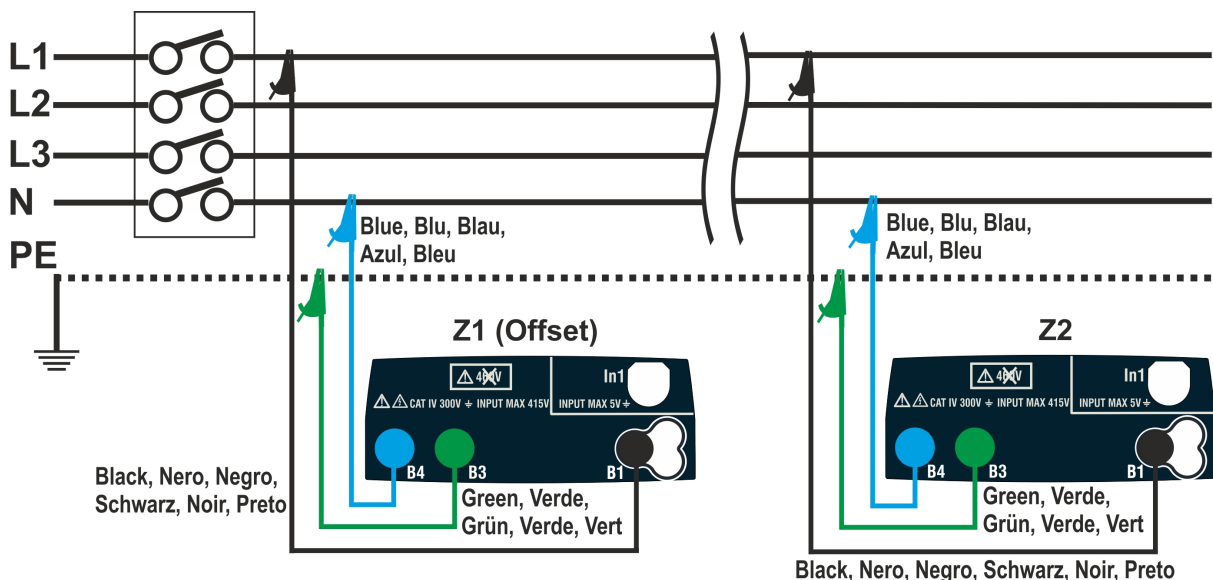
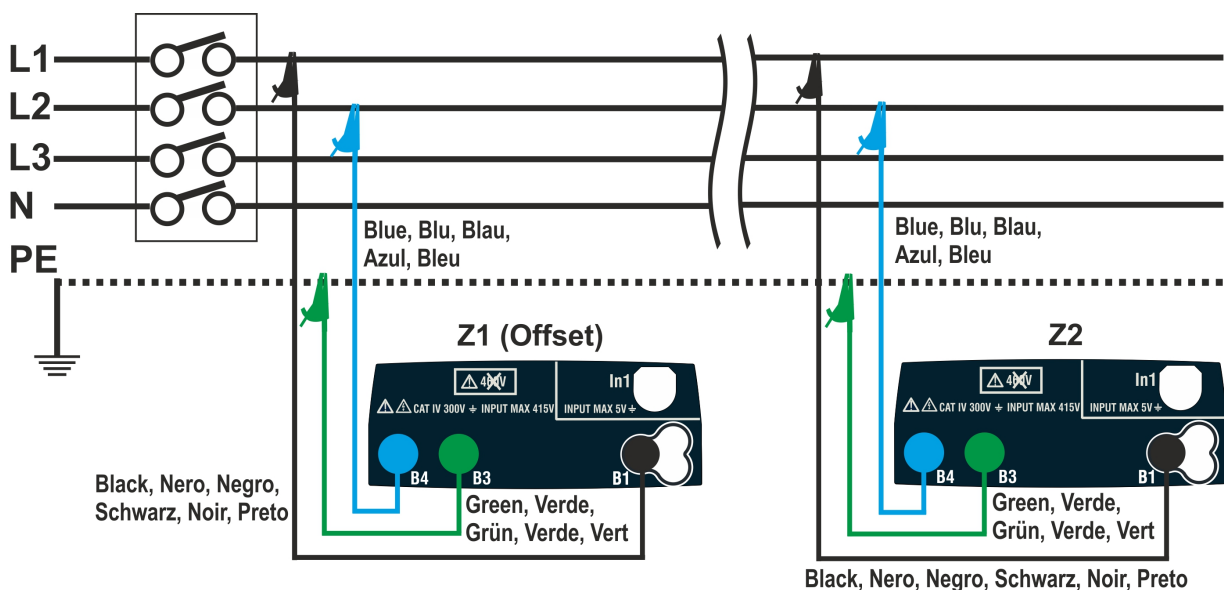

Fig. 36: Connection of the instrument for L-N mode voltage drop measurement
Fig. 37: Connection of the instrument for L-L mode voltage drop measurement
- Connect the instrument to the initial point of the mains being tested (typically downstream of a protection device) according to Fig. 36 or Fig. 37 in order to carry out the first **Z1 (Offset)** impedance measurement. In this case, the instrument will measure the impedance upstream of the initial point of the mains being tested, taking it as starting reference. The following screen (referred to L-L measurement) appears on the display.
7. Connect the instrument to the final point of the mains being tested according to Fig. 36 or Fig. 37 in order to measure the **Z2** impedance at the end of the line. Note the previously measured Z1 (Offset) value displayed.